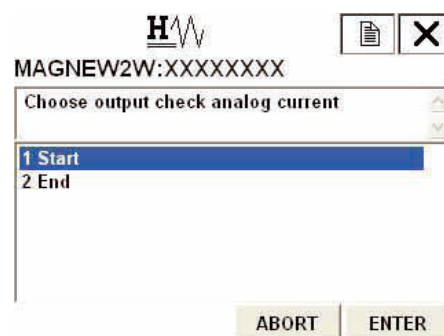

Figure 7-80
2. Figure 7-80 will then appear. Choose